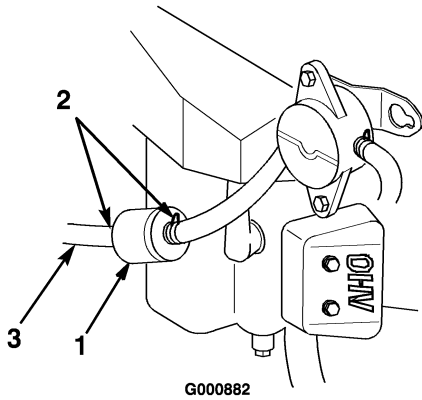

Figure 29
4. Squeeze the ends of the hose clamps together and slide them away from the filter (Figure 29).
6. Install a new filter and move the hose clamps close to the filter (Figure 29).
5. Loosen the hose clamp at the fuel filter and slide it up the fuel line away from the fuel filter (Figure 29).
6. Pull the fuel line off of the fuel filter (Figure 29).